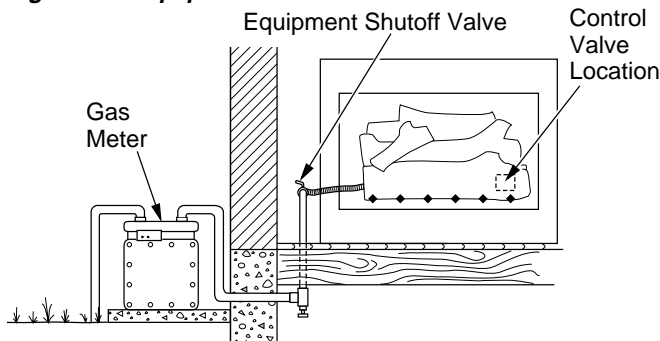

Figure 16 - Checking Gas Joints (Natural Gas Only)
3. Check all joints from gas meter (natural gas) or propane/LP supply to equipment shutoff valve (see Figure 16 or 17, page 13). Apply a commercial leak detection solution to all joints. Bubbles forming show a leak.
4. Check all joints from gas meter (natural gas) or propane/LP supply to equipment shutoff valve (see Figure 16 or 17). Apply a commercial leak detection solution to all joints. Bubbles forming show a leak.